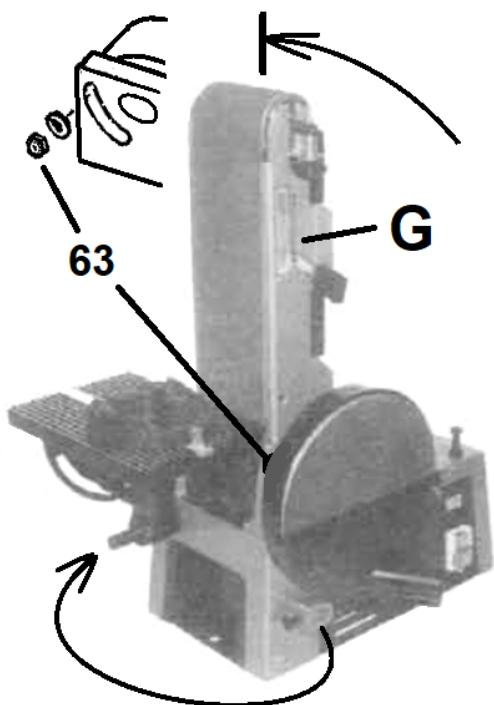

Figure 8-1: Lift the arm for vertical belt sanding
1. Loosen the nut (63, Fig. 8-1) and bring the belt arm (G) in vertical position. Install the sanding table. Set a 90 ° angle between the sanding table and belt arm. Lock the belt arm in place by tightening the nut (63).